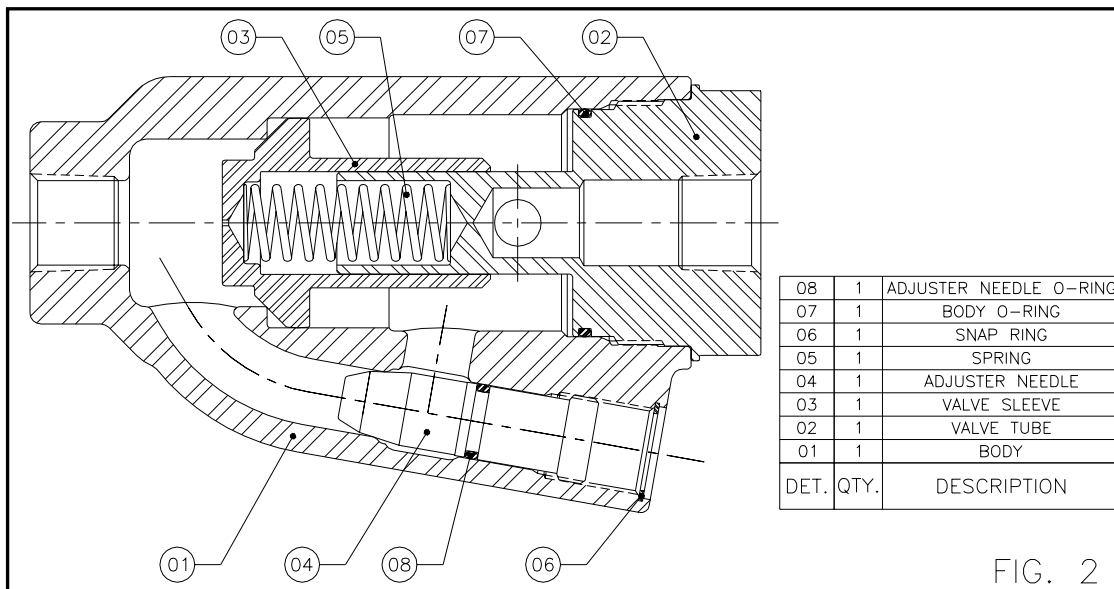

FIG. 2
3. Unscrew valve tube from the body. (See Fig. 2 for part descriptions.)